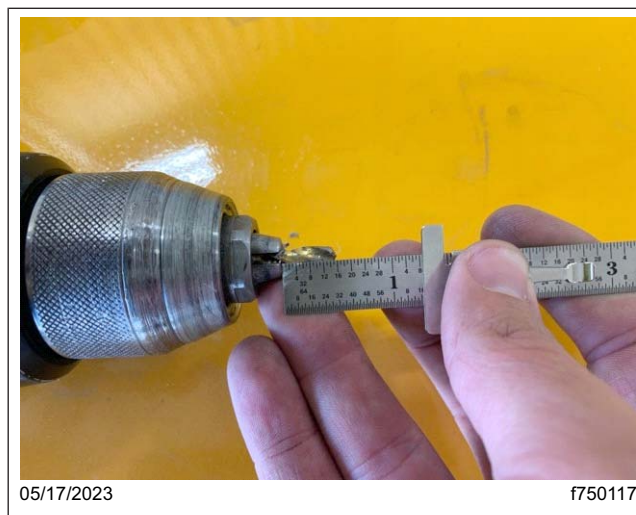

Fig. 13, Corded Drill with 3/16-Inch Drill Bit
18. Use a 3/16-inch drill bit and a drill stopper along with a corded drill to drill 1/2-inch deep holes in all the marked locations. See Fig. 13.
33. Use a 3/16-inch drill bit and a drill stopper along with a corded drill to drill 1/2-inch deep holes in all the marked locations. See Fig. 13.